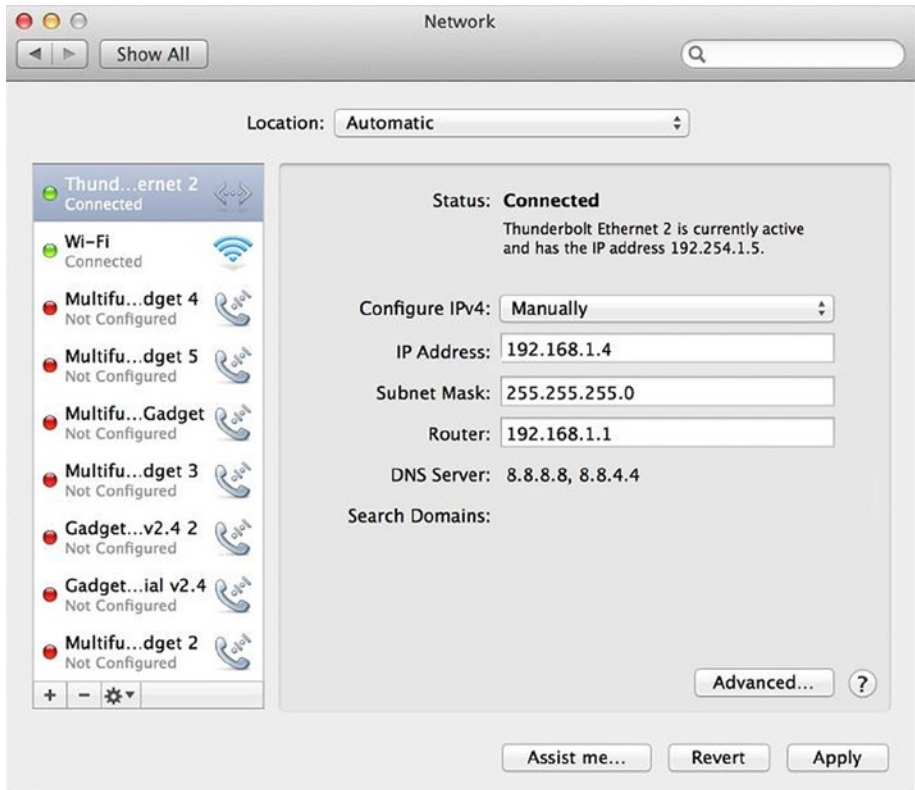

Figure 5-18. Ethernet cable connected and static IP ready
- 5. Connect Intel Galileo to your Mac using the Ethernet cable. You should be able to see the cable with its Status changed to Connected, as shown in Figure 5-18.